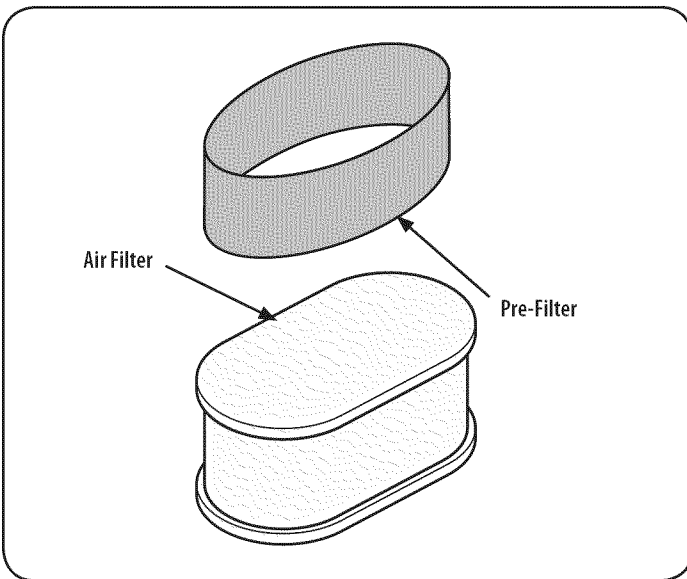

Figure 27
3. Remove the foam pre-filter from around the paper air filter. See Figure 27. Replace paper element when dirty or damaged. Clean foam element or replace when damaged.